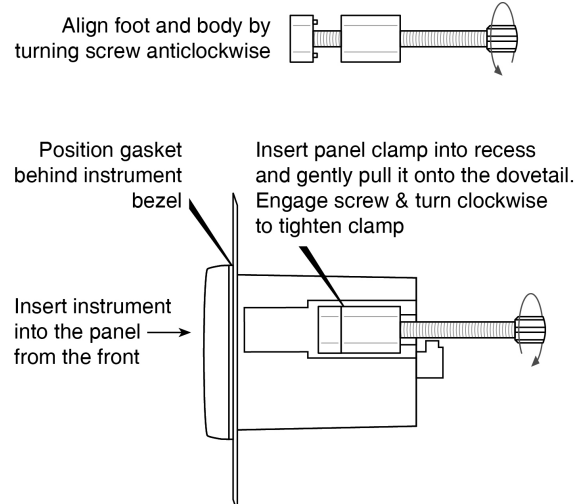

Fig 7 Fitting panel mounting clamps
- Place a clamp in the recess on each side of the Tachometer, pulling gently to slide it onto the dovetail as shown in Fig 7. Push the knurled screw slightly forward to engage the thread and tighten by turning clockwise until it is just finger tight. When all clamps are fitted ensure that the gasket behind the front panel bezel is correctly positioned before fully tightening the clamps to secure the instrument. The maximum recommended clamp tightening torque is 22cNm (1.95 lbf in) which is approximately equivalent to finger-tight plus one half turn. **Do not over tighten.**